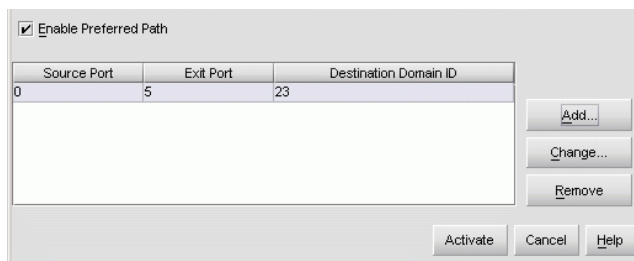

Figure 2-45 Configure Preferred Paths Dialog Box
2. At the *Hardware View*, select *Preferred Path* from the *Configure* menu. The *Configure Preferred Paths* dialog box displays (*Figure 2-45*).